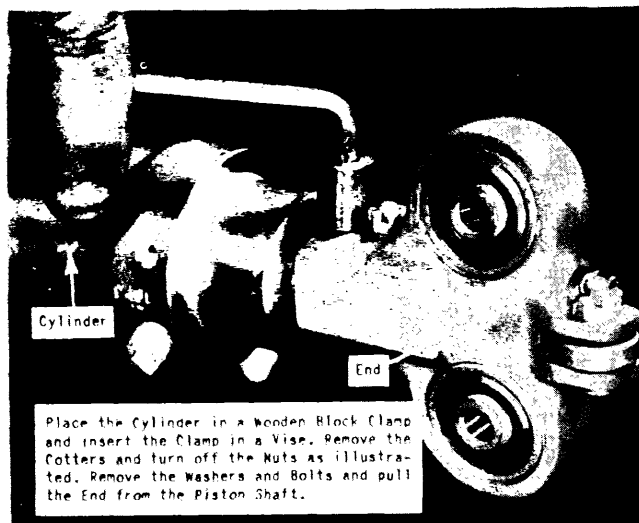

Figure 188 - Removing End on Piston Shaft
(2) Remove the cotters, nuts, and washers from the two bolts attaching the end to the piston shaft. (See figure 188.)